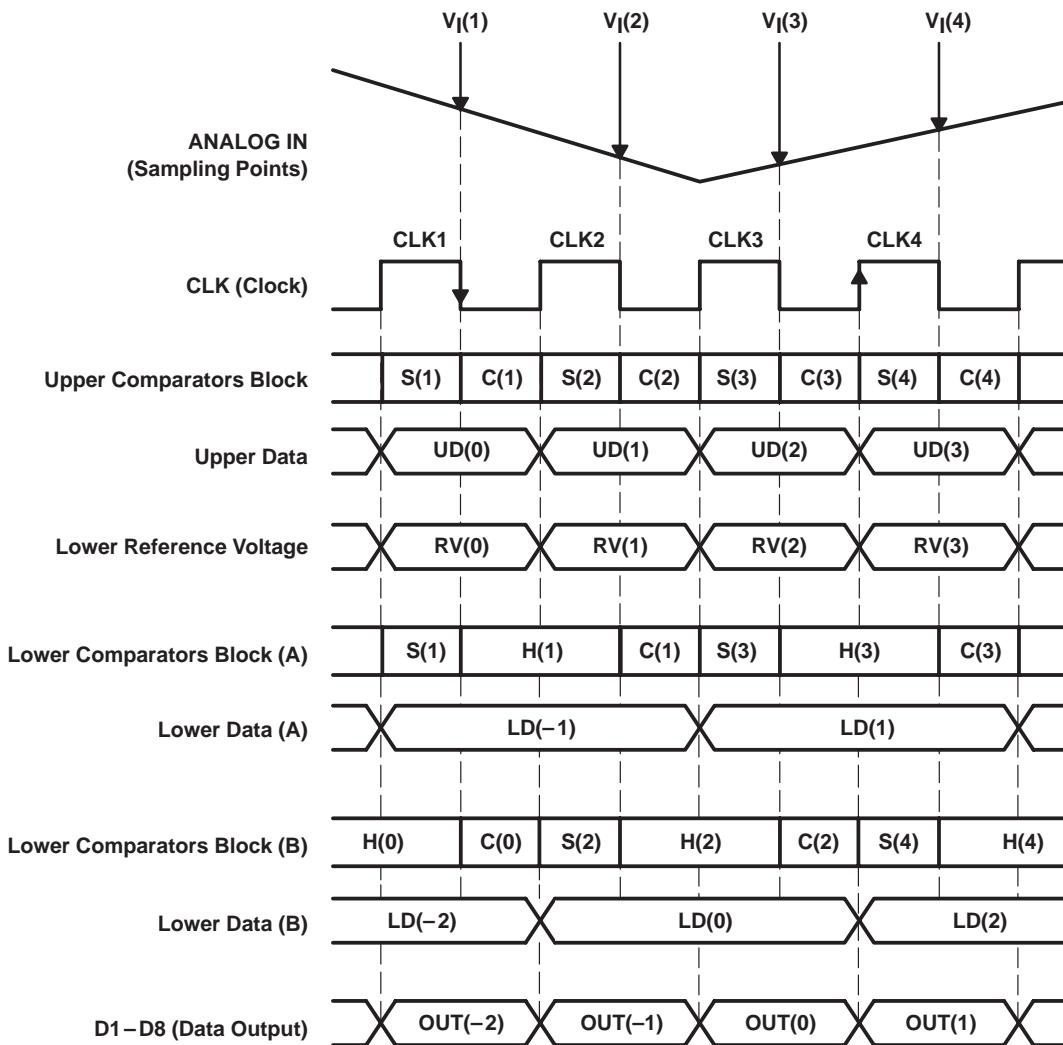

Figure 19. Internal Functional Timing Diagram
As shown in Figure 19, input voltage $V_I(1)$ is sampled with the falling edge of CLK1 to the upper comparators block and the lower comparators block(A), S(1). The upper comparators block finalizes the upper data UD(1) with the rising edge of CLK2, and simultaneously, the lower reference voltage generates the voltage $RV(1)$ corresponding to the upper data. The lower comparators block (A) finalizes the lower data LD(1) with the rising edge of CLK3. UD(1) and LD(1) are combined and output as OUT(1) with the rising edge of CLK4. According to the above internal operation described, output data is delayed 2.5 clocks from the analog input voltage sampling point.
The MSB comparator block converts on the falling edge of each applied clock cycle. The LSB comparator blocks CB-A and CB-B convert on the falling edges of the first and second following clock cycles, respectively. The timing diagram of the conversion algorithm is shown in Figure 19.